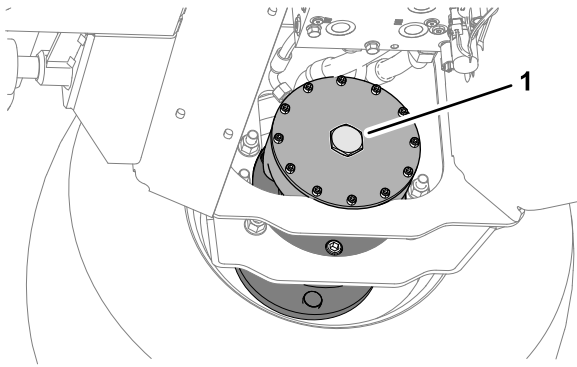

Figure 40
2. Install the hex plug into the motor end plate (Figure 40).
6. Stow the 2 bolts 12 x 40 mm and 2 washers 12 mm stored in the platform support rails (Figure 40).